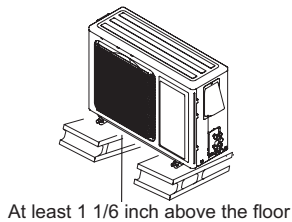

Fig.18
- (1) Take sufficient protective measures when installing the outdoor unit.
- (2) Make sure the support can withstand at least four times the unit weight.
- (3) The outdoor unit should be installed at least 1 3/16 inch above the floor in order to install drain joint.(As show in Fig.18)
- (4) For the unit with cooling capacity of 2300W~5000W, 6 expansion screws are needed; for the unit with cooling capacity of 6000W~8000W, 8 expansion screws are needed; for the unit with cooling capacity of 10000W~16000W, 10 expansion screws are needed.